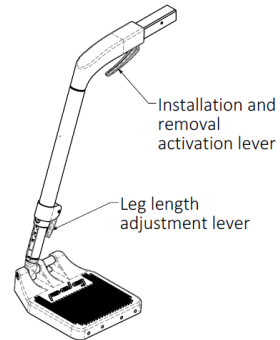

Figure 12.7: Adjusting footrest height
1. Release the leg length adjustment lever. This is shown in Figure 12.7